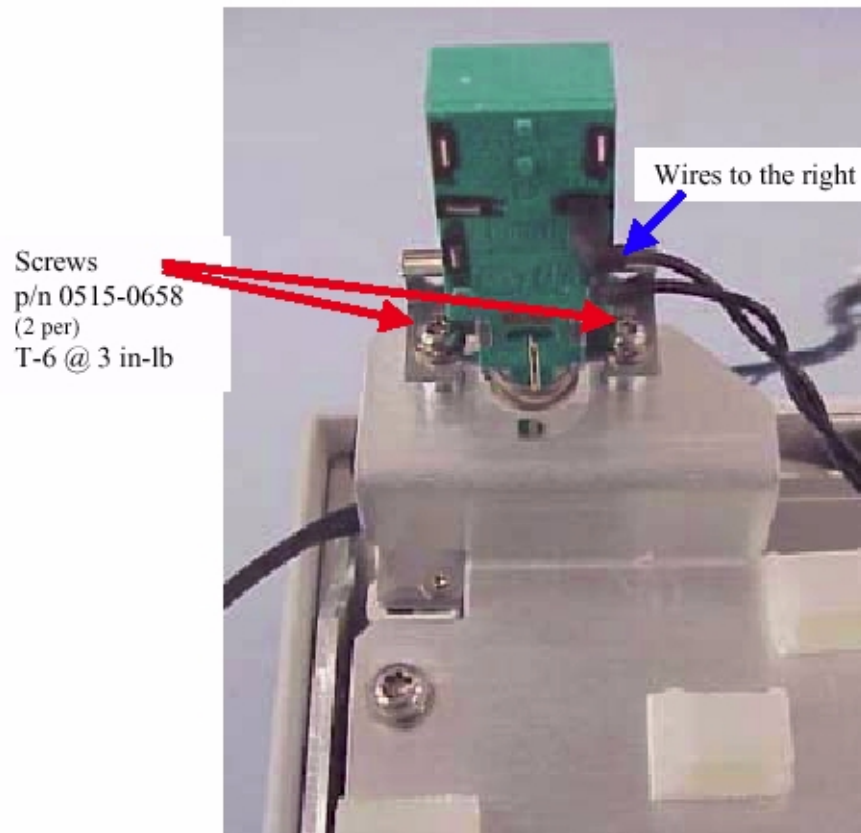

Figure 3-51. Removing the screws attaching the switch to the bracket
- 5 Remove the two screws attaching the switch bracket to the original inverter cover. Carefully remove the display and gasket. See Figure 3-51.